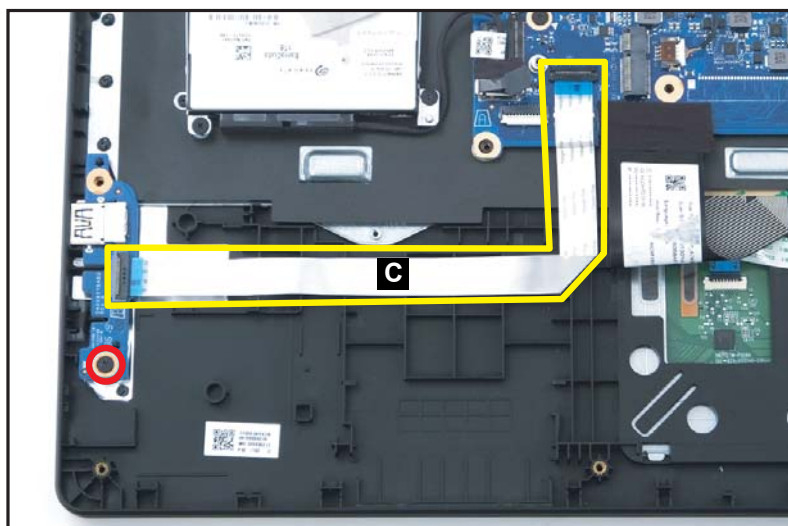

Figure 1-93. Replacing the USB Board
2. Install and secure one (1) screw to the USB board (Figure 1-93).
3. Connect the USB board FFC (C) to the mainboard and USB board connectors (Figure 1-93).